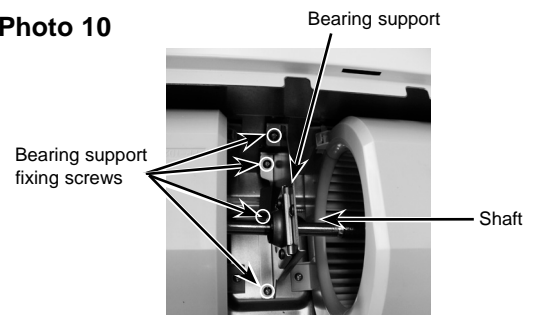

Figure 3
- (2) Remove the right side panel. (See Figure 3, 4)
- (3) Remove the connector of vane motor.
- (4) Remove 2 screws of vane motor cover, then remove vane motor.
- (2) Remove the left and right side panels. (See Figure 3, 4)
- (3) Remove the beam. (See Photo 1)
- (4) Remove the electrical cover. (See Photo 1)
- (5) Pull the electrical box downward. (See Photo 2)
- (6) (Wireless remote controller receiver type only)
- (2) Remove the side panel (right and left). (See Figure 3, 4)
- (3) Remove the under panel. (See Photo 13)
- (4) Remove the drain pan. (See Photo 14, 15, 16)
- (5) Disconnect the connector CN44 (white) from the indoor controller board.
- (6) Remove 6 screws from the pipe cover and remove the pipe cover. (See Photo 14, 17)
- (7) Remove the fastener for wires and remove the thermistors (TH2 and TH5) from each holder. (See Photo 18)
- (5) Remove the screw from the guide vane, then remove the guide vane.
- (3) Remove the vane motor and cover. (See Photo 12)
- (4) Slide the auto vane to the vane motor side.
- (5) Remove 2 axes from each vane support pushing the vane support to the vane sleeve side.
- (5) Remove the pipe cover. (See Photo 17)
- (6) Remove the pipe thermistors (TH2 and TH5) from each holder. (See Photo 18)
- (7) Remove the pipe band fixing screw and remove the pipe band. (See Photo 21)
- (8) Remove 3 screws from the heat exchanger and remove the heat exchanger. (See Photo 22)